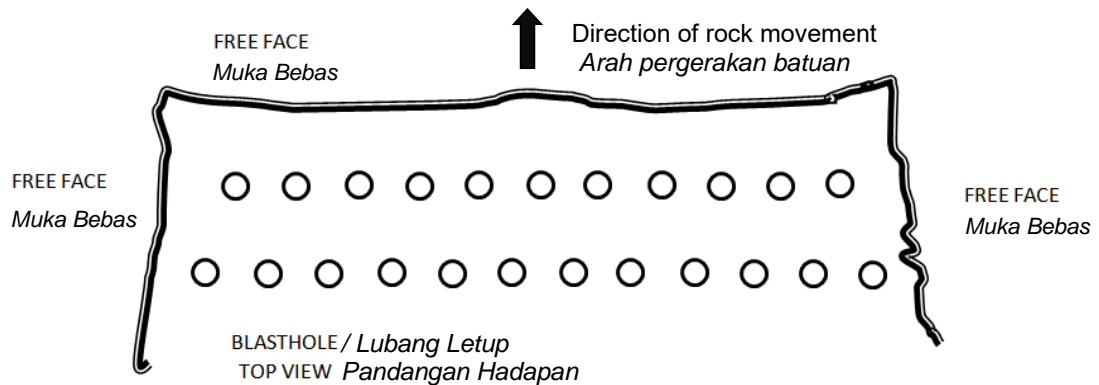

Figure 2 /Rajah 2
(ii). **Maximum** of one (1) hole per delay (Figure 2)